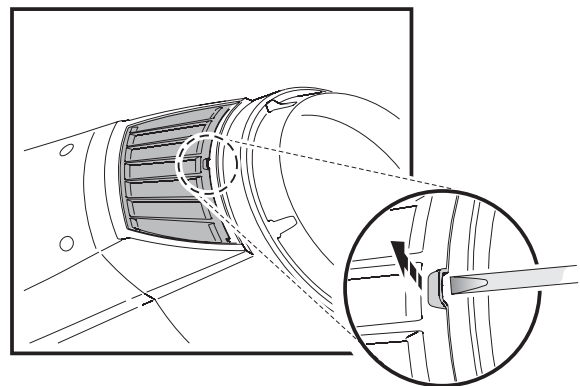

Figure 16: Removing head air filters
2. See Figure 16. On each side of the head, use a flat-bladed screwdriver to lever the front edge of each filter holder away from the head and pull the filter holders forwards to unclip and remove them.